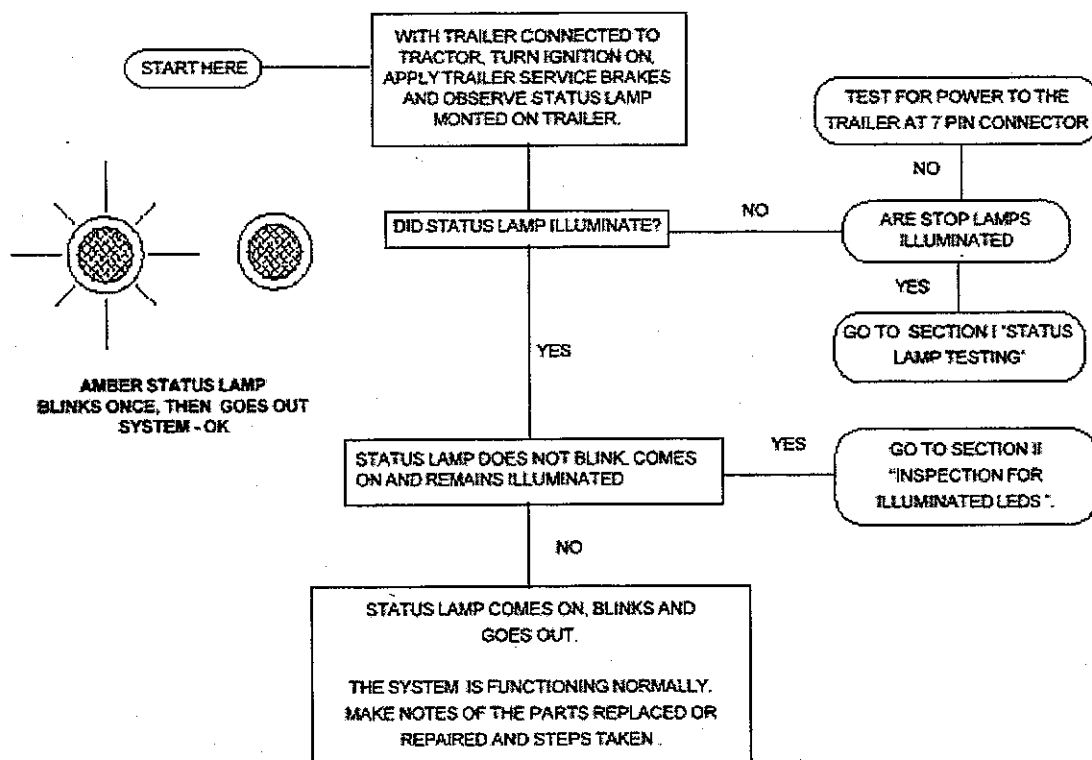

Figure 12—7-Pin Connector
- See Figure 12—Diagnostic Display Quick Reference